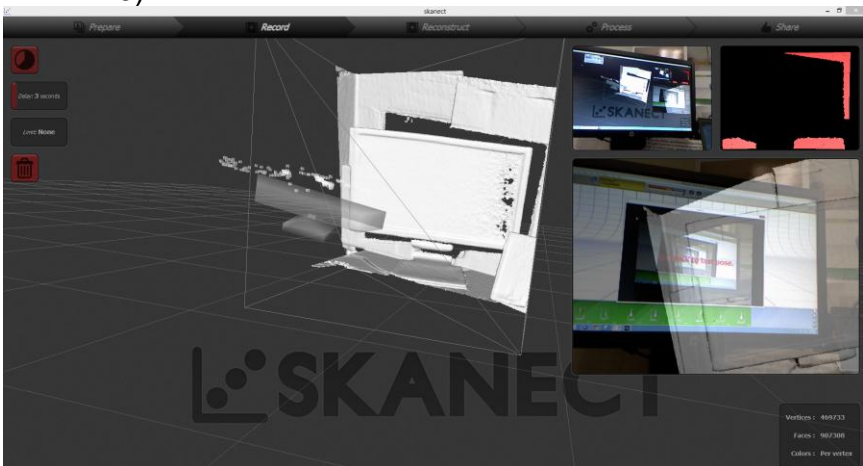
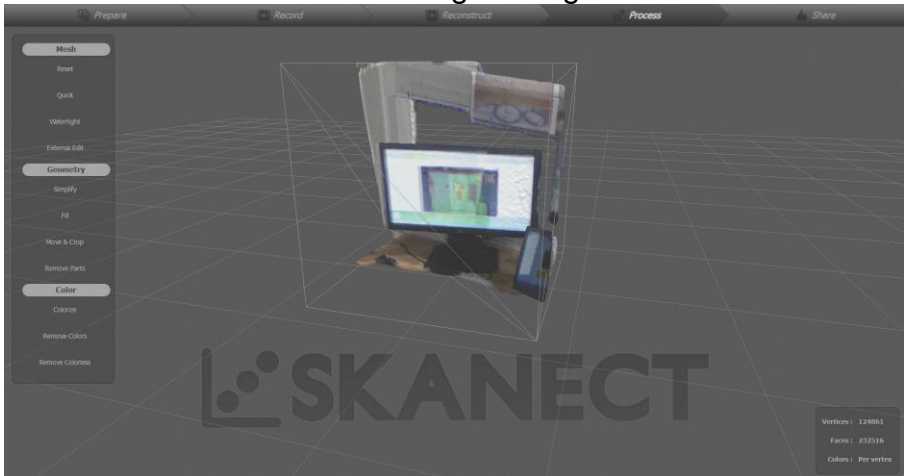

Figure 9: Quick Model Capture
Figure 10: Watertight Example
18. If model rendering is satisfactory (FIG. 9), you may proceed to the **PROCESS** tab to alter the model (FIG. 10).
- Alternatively, you may select **WATERTIGHT** (FIG. 10) under the **MESH** bar for an automated coloring & filling of the model.